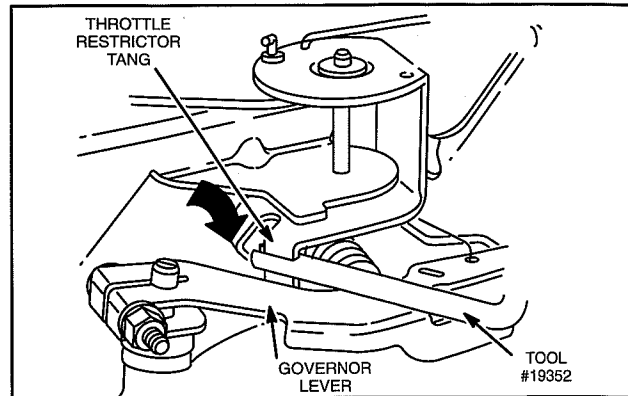

Fig. 19 – Adjusting Throttle Restrictor
3. With equipment control lever in SLOW position and engine running at governed idle RPM, use tang bender, Tool #19352, and bend throttle restrictor tang so that tang just contacts governor lever, Fig. 19.